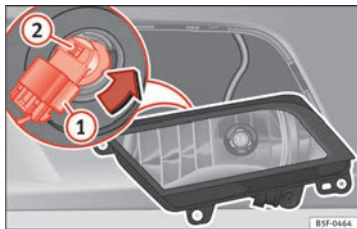

Fig. 174 Fog light.
- Remove connector ⇒ Fig. 174 ① from the bulb.
- Turn the bulb holder ⇒ Fig. 174 ② to the left and pull.